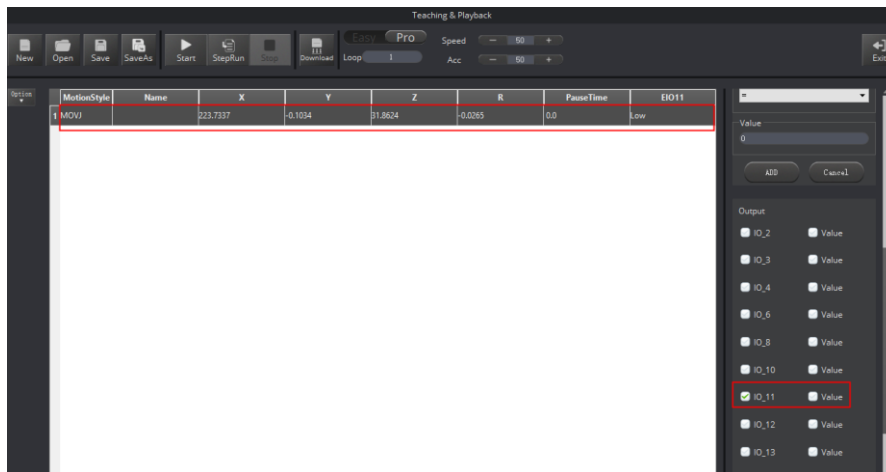

Figure 5.181 Saved point
Step 2 Select **IO_11** on the Output pane, and click **+Point**, as shown in Figure 5.181.